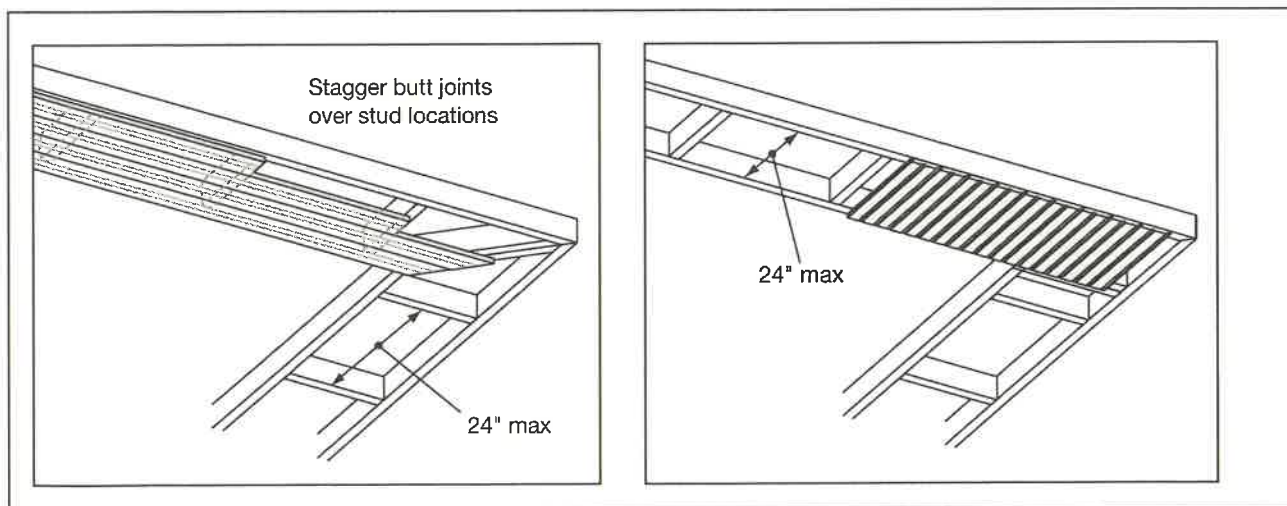

Fig. 35
- In soffit and porch ceiling applications, TruExterior Beadboard must be installed on frame-built soffits with studs spaced 16 inches to 24 inches maximum on center, without a substrate (**Fig. 35**)
- Always stagger your butt joints over the stud locations (**Fig 35**)